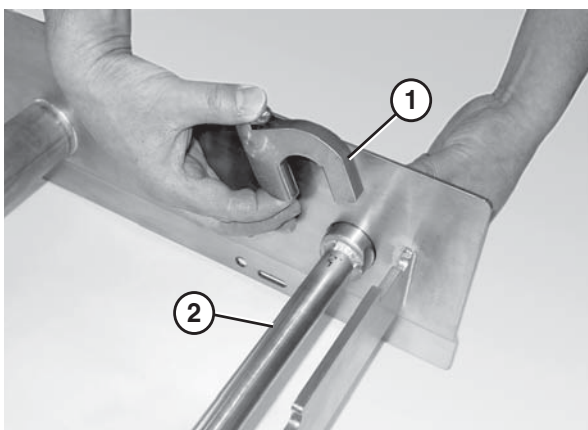

Figure 15
2. Attach the key stops (**Figure 15, item 1**) to the tip up shaft (**Figure 15, item 2**). The rounded end of the key stop should face the tail.